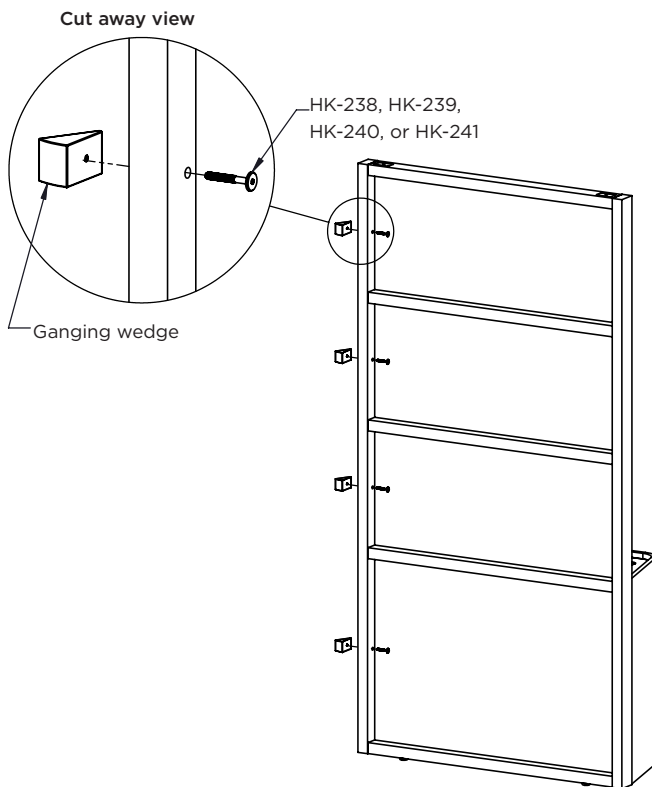

Figure 5B
- For 90"h to 90"h planters. Locate ganging hardware connector bolts (HK-238, HK-239, HK-240, or HK-241, color dependent). The infill type will determine which hardware kit is used. Reference table below to identify the appropriate length. Using the $\frac{5}{32}$ hex key, secure the ganging wedges to the planter frame using the connector bolts. For 90"h to 90"h planters, there are four connection joints per side. (**Figure 5B**)